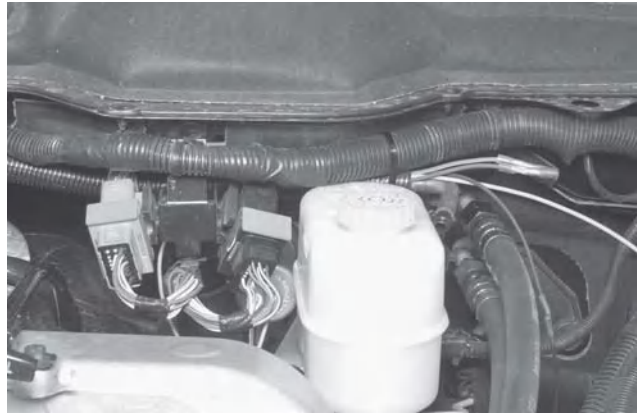

Fig. 16a
- a. Ensure that the brake harness is properly aligned with the vehicle harness and that the 90 degree end of the polytube is to the right of the master brake cylinder (see figures 16a, 16b, and 16c). Secure the harness by tightening the harness tie-wraps. Do not over-tighten the wraps thereby crushing the vehicle or brake harness convolute.